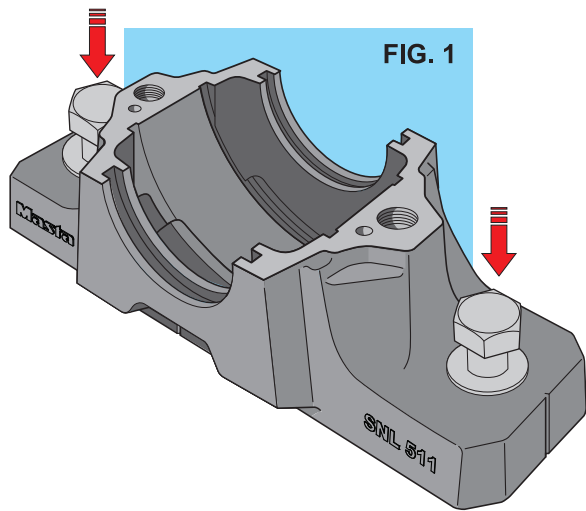

FIG. 1
6. Locate the bearing housing on the mounting surface properly and then put the foundation bolts. FIG 1
6. Locate the housing on the mounting surface and put the foundation bolts. (Note : The same will be fully tightened later on upon assembly, refer point 16) FIG 1